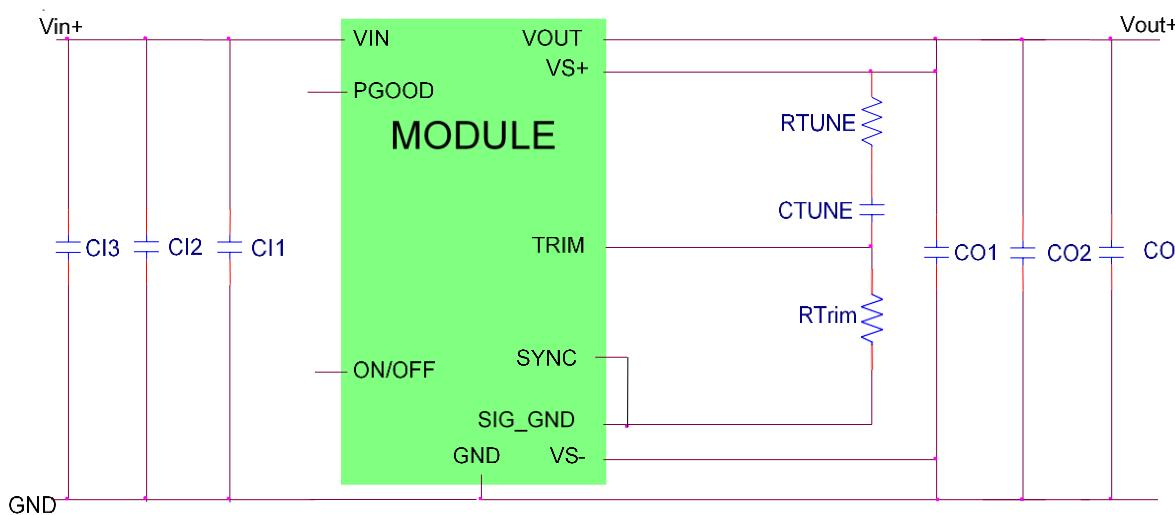

Figure 7. Typical Application Circuit of the IND072 regulator.
- **Minimize loop area** - To provide the most effective filtering and avoid noise coupling from a regulator to other parts of the circuit, it is recommended that the loop area for both power and signal traces to the regulator be minimized. To minimize input noise, it is necessary to reduce the parasitic inductance of the input loop significantly, by reducing the loop area. Using a high frequency, low ESR and ESL bypass capacitor, close to the regulator module input pins reduces the area of this loop significantly. Figure7 shows a typical application circuit incorporating these recommendations. For reducing high frequency switching noise at the input and output of the module, 0.047 μ F (0402), 0.1 μ F (0402), etc. small package ceramic capacitors (C1 and C01 in schematic) should be placed at the input and output of the module. Capacitors used for minimizing the ripple component (C12, C13, C02 & C03) are termed as bulk capacitors with capacitance needed being in the order of tens or hundreds of μ F.